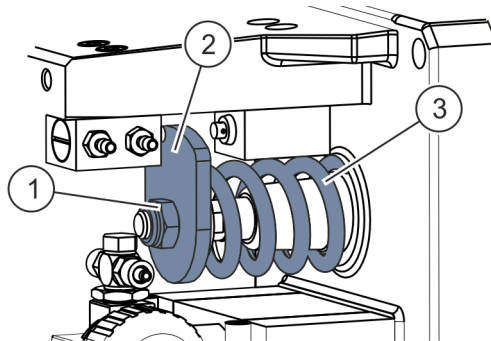

Fig. 13: Pressure disc and spring
3. ➤ Insert the pressure springs (Fig. 13/3) and pressure disc (Fig. 13/2) and screw with the nut (Fig. 13/1).